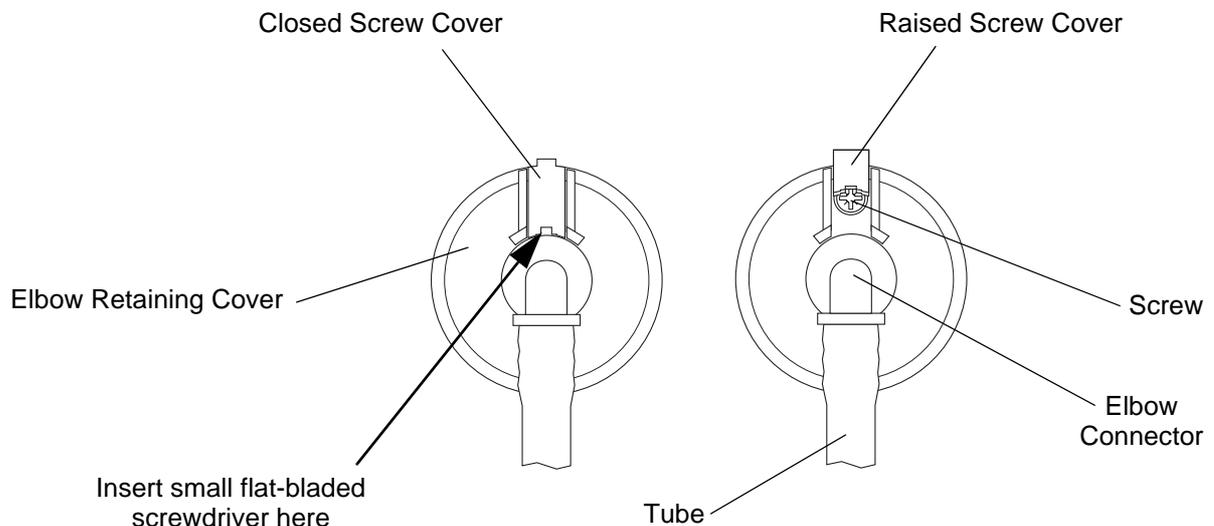

Figure 35 - Lifting the Hose Set Connector Flap
- 8.1 Using a small flat-bladed screwdriver, carefully lift the screw cover on the elbow retaining cover to reveal the screw underneath (Refer to Figure 35).
- 9.1 If you want to re-fit the same hose set assembly which was removed from the pump, then inspect the screw cover on the elbow retaining cover on the hose set assembly (Refer to Figure 35). If the screw cover or hinge is damaged or split, then replace the hose set assembly.
9.8 Carefully press down the screw cover until it clicks into position (Refer to Figure 35).